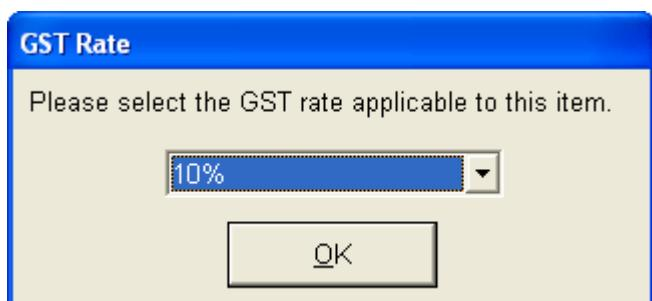

Figure 20
3. The Quantity field will default to '1' and you will need to enter in the retail price, as soon as you tab past the 'Retail' price field you will be prompted with the 'GST Rate' window (see Figure 20).